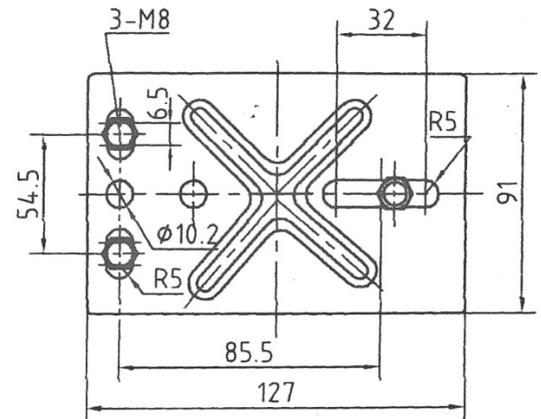

Fig. 1: H-1100A Winch Mounting Instruction
2. Installing winch at a place should be safe enough to pass-by people, with at least 3 (three) x M8 mm bolts, nuts, flat washers and lock washers to securely fix the winch frame on the mounting structure together (see Fig. 1).